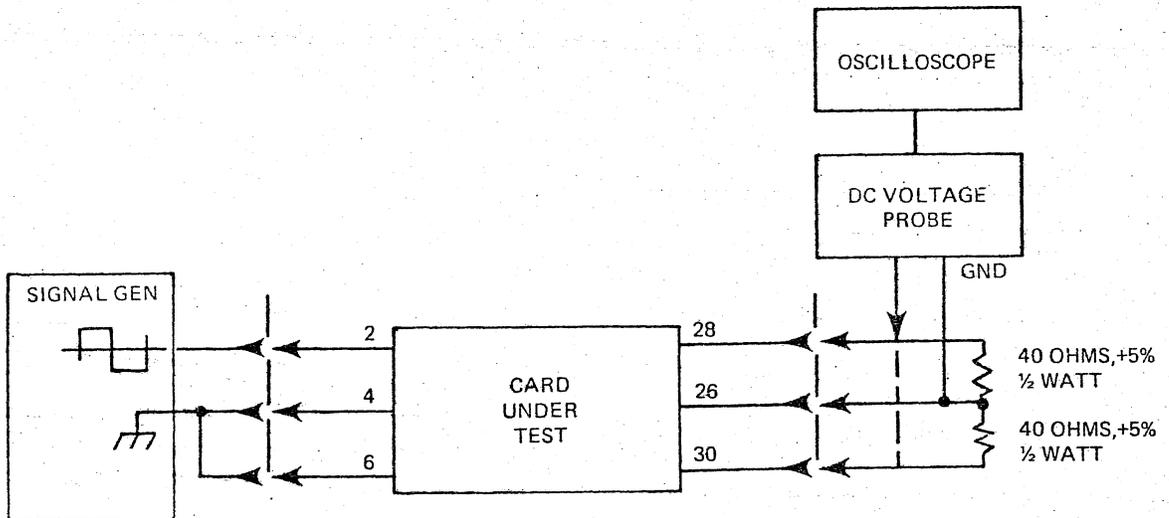

FIG. 2
- 3.02 Connect the equipment as shown in Figure 2. If the card is tested outside of the enclosure, the test equipment should be connected to the card edge connector. If the card is tested in an enclosure, the test equipment should be connected to the rear panel connector/terminal strip.